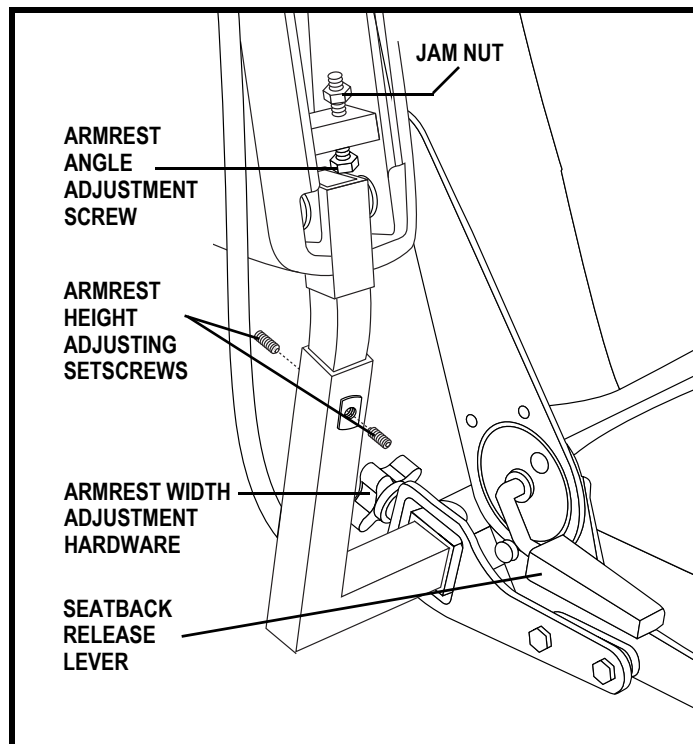

Figure 19. Armrest and Seatback Adjustments
NOTE: The most common configuration of the seat adjustment hardware is shown in figure 19. Your product may be equipped with a different configuration. All configurations operate in a similar manner.
If your power chair is equipped with a manual recline seatback, you can adjust the seatback angle with the seatback release lever. The lever is located on the right side of the seat base. See figure 19.
1. Locate the adjustment hardware on each side of the armrest receiver bracket. See figure 19.
1. Lift the armrest straight up so that it is perpendicular to the floor. See figure 19.
1. Loosen the setscrews on the armrest. **See figure 19.**